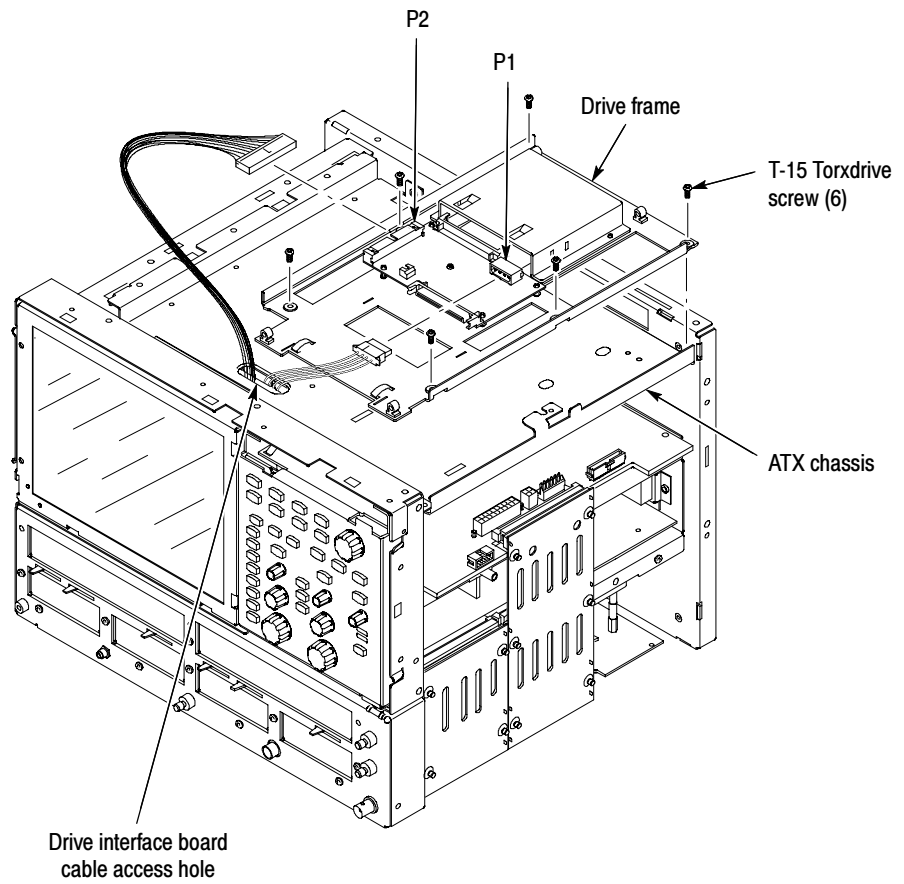

Figure 8: Hard drive and CD-RW/DVD drive mounting frame removal
3. *Remove the mounting frame.* See Figure 8, page 19.